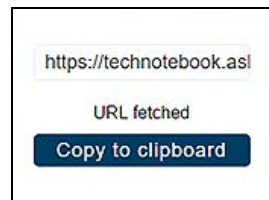

Figure 12-11
2. Select **Copy to Clipboard** (*Figure 12-11*) from the pop-up window.